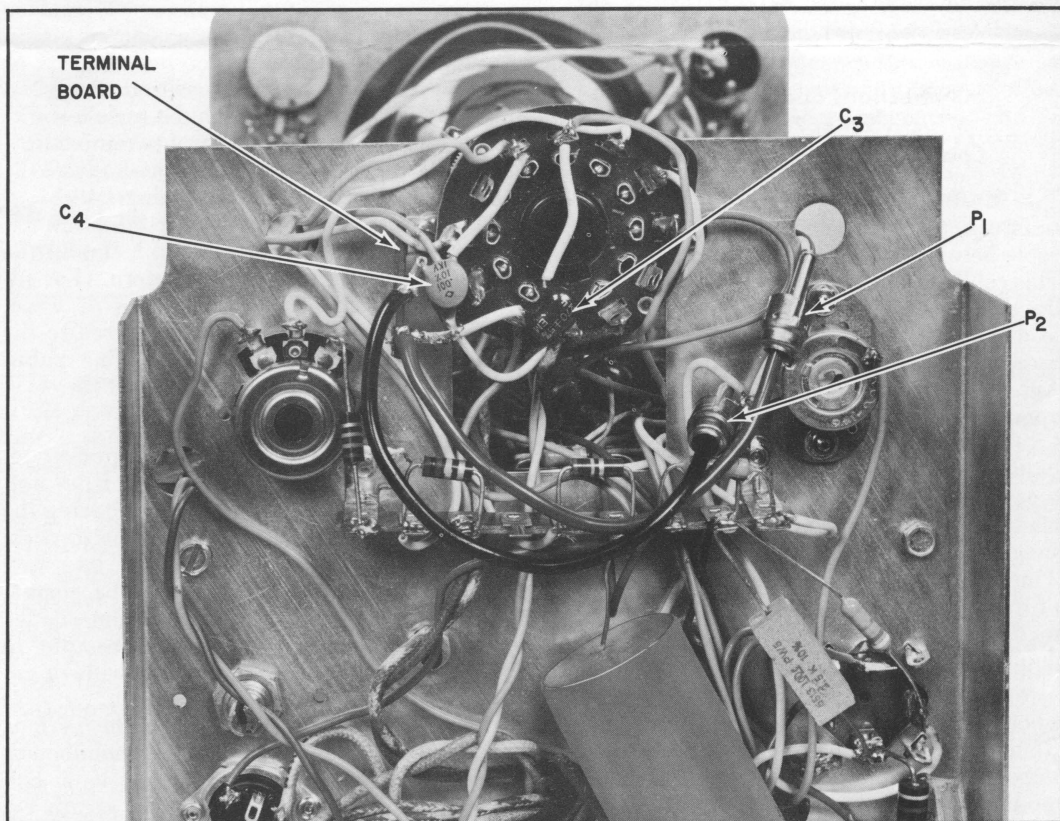

Figure 4: Rear section of chassis at CRT socket showing wiring and connections.
box and assemble the parts. During assembly, make certain that the adjusting screw at C₂ lines up with the "Adj." hole (Figure 4).
4. Mount the terminal strip on the oscilloscope chassis to the left of the CRT, as shown in Figure 4. Connect the 270-picofarad and 0.001-microfarad capacitors on the terminal board to CRT socket pins 7 and 6. Then connect the two 5-inch leads to the terminal board.